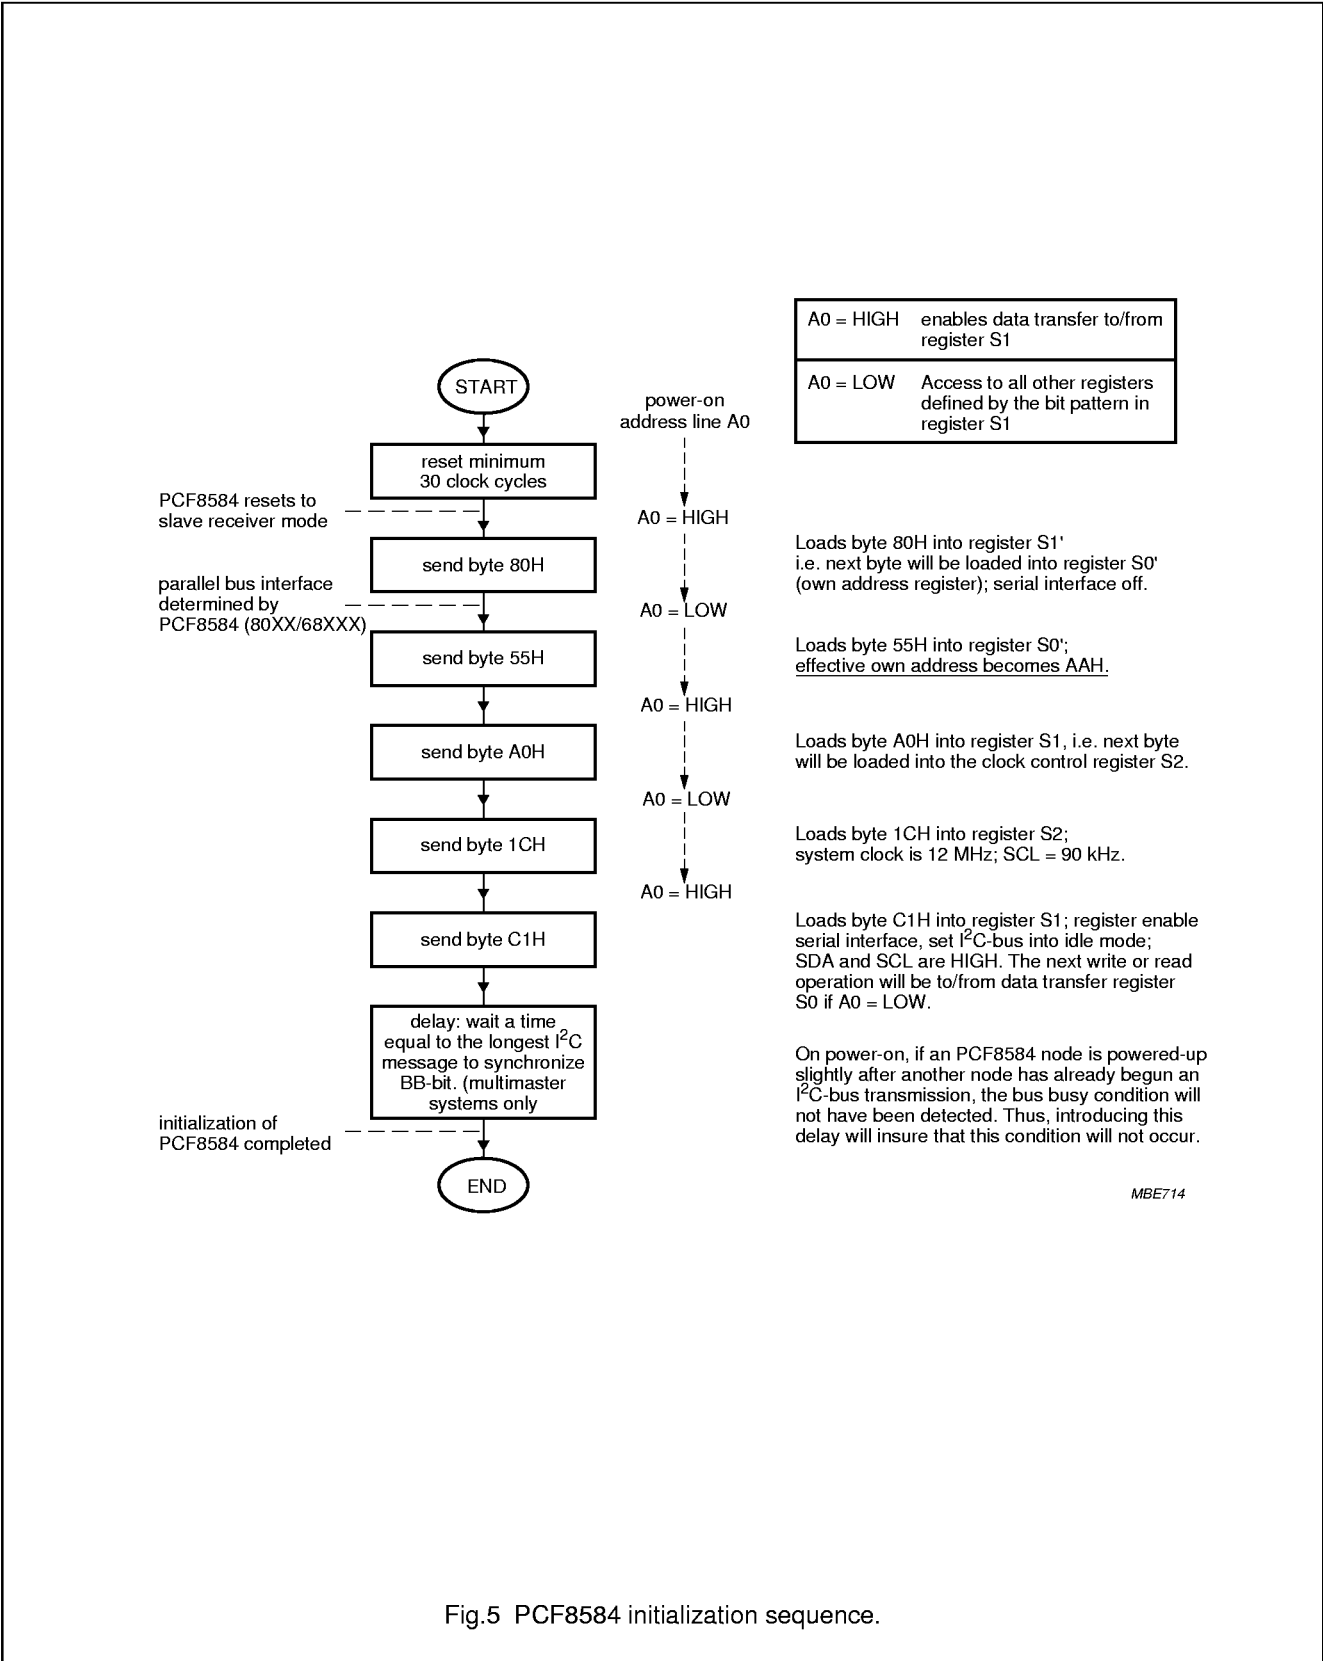

Fig.5 PCF8584 initialization sequence.
- When powering up multiple PCF8584s in multi-master systems, the possibility exists that one node may power up slightly after another node has already begun an I2C-bus transmission; the Bus Busy condition will thus not have been detected. To avoid this condition, a delay should be introduced in the initialization sequence of each PCF8584 equal to the longest I2C-bus transmission, see flowchart 'PCF8584 initialization' (Fig.5).
The flowchart of Fig.5 gives an example of a proper initialization sequence of the PCF8584.